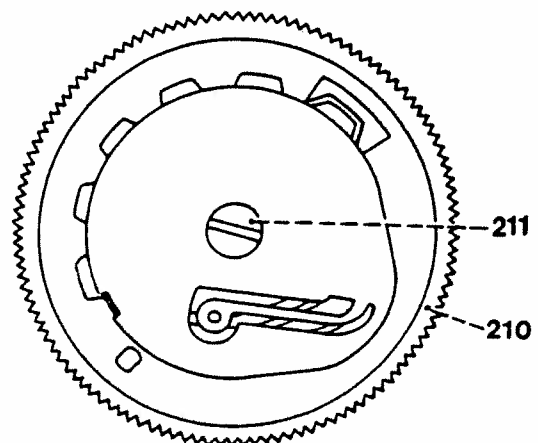

Fig. 18a
- Loosen screw 211 just lightly (fig. 18a).
- Tighten screw 211 very firmly (fig. 18a).